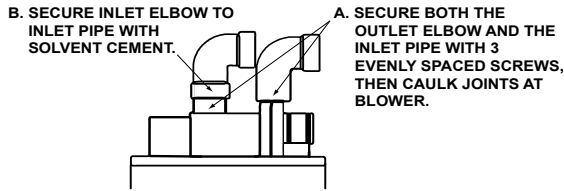

FIGURE 27.
1. If making an immediate horizontal run of vent off the blower, install the following at the blower **inlet**: one 3" PVC Schedule 40 pipe (3" long minimum) and one 3" PVC Schedule 40 elbow. At the **outlet**, install one 3" PVC Schedule 40 street elbow. (Exception: For the **outlet**, use CPVC for 75 gallon models and ABS for 50 gallon 65,000 Btu/Hr models.) Place the elbows in the required direction on the blower, then secure as described in Figure 27.